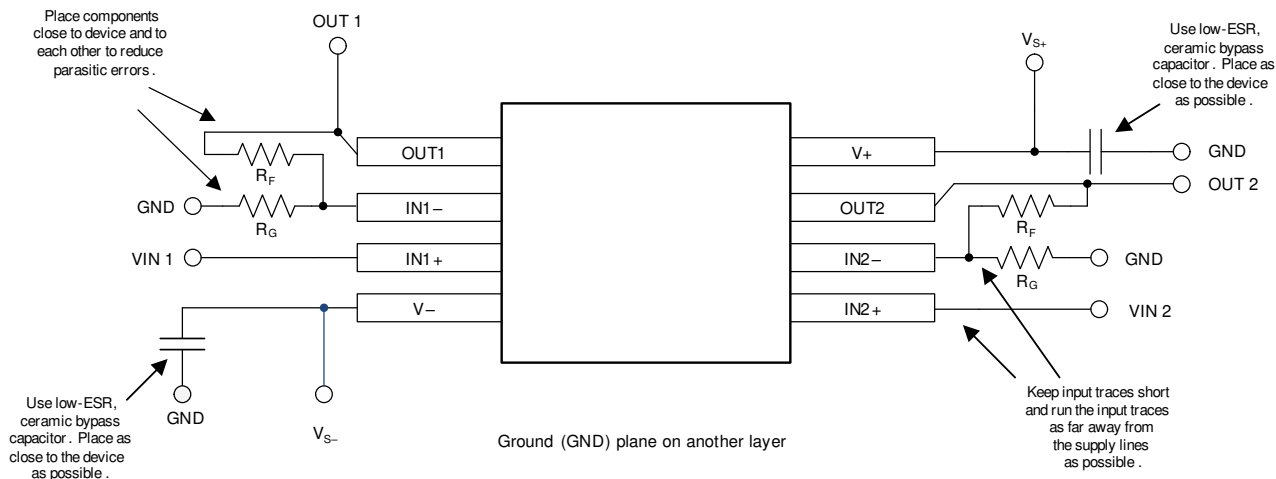

图 8-4. Layout Example
- Place the external components as close to the device as possible. As illustrated in 图 8-4, keeping R_F and R_G close to the inverting input minimizes parasitic capacitance on the inverting input.